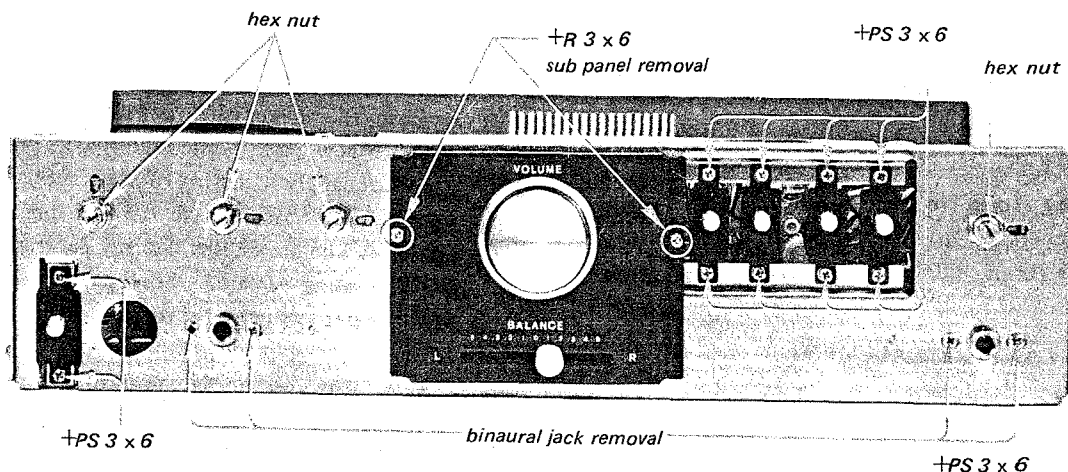

Fig. 2-5 Front sub panel, switch, control and binaural jack replacement
3. Remove the two self-tapping screws (+R 3 X 6) securing the panel to the chassis. See Fig. 2-5.
First, remove the wooden case, front panel and front sub-panel as described in Procedures 2-3, 2-4 and 2-5. Then perform the following procedures while referring to Fig. 2-5.